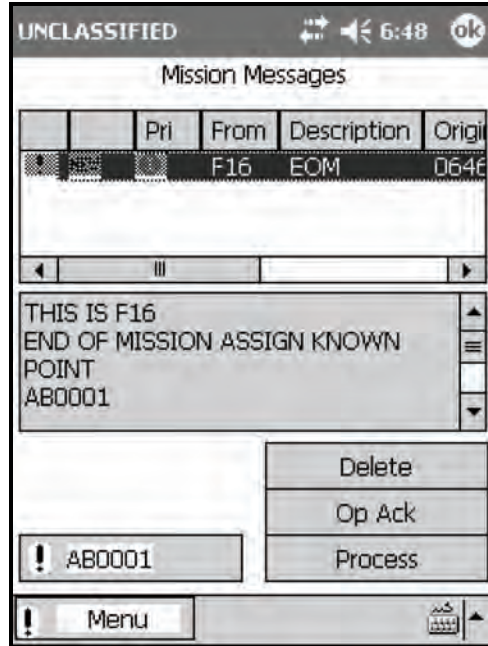

Figure 18-34. Digital Fire Mission: end of mission message.
- (58) Select the <Target> control button.
- (59) The <Target> screen displays.
- (60) Select the Msn Message button.
- (61) The Msn Message screen (Figure 18-34) displays. The screen shot on the left depicts the mission message before it is acknowledged. The screen shot on the right depicts the mission message after it is acknowledged.